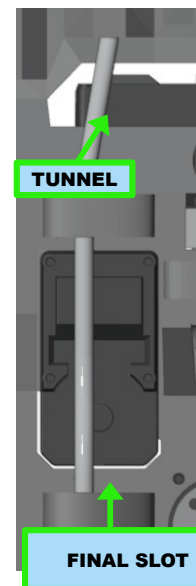

Figure 5.34: Inserting the tube into the pass-through tunnel and then into the final slot (rear view) (vista posteriore)
1. Insert one end of the PTFE tube into the initial slot (on the rear of the skeleton) of the extension tendon (figure 5.34)